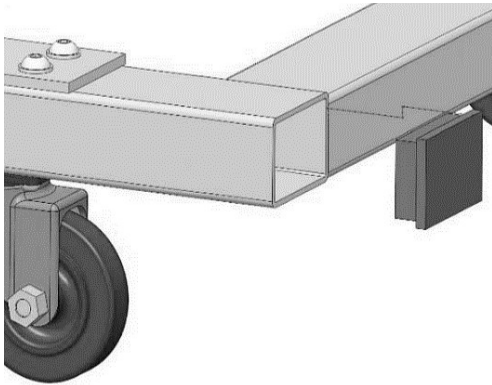

Fig. 8: Insert covers
Step 4: Insert the covers (Fig.8) into the four sides of the chassis.